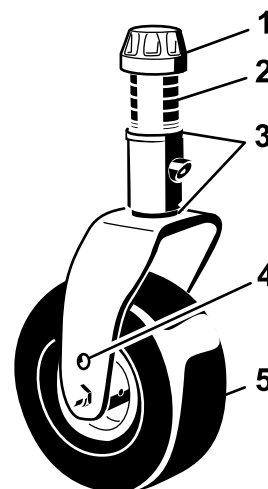
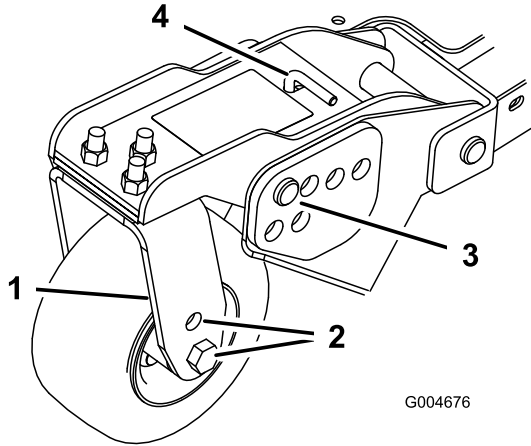
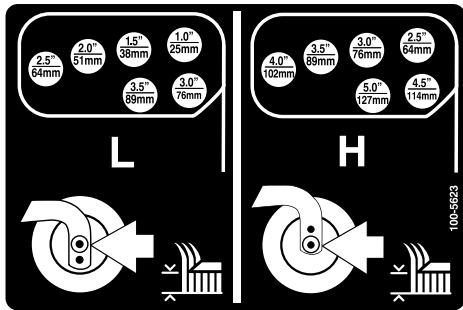

Figure 21
Figure 23
Figure 24
- Position the caster-wheel axles in the same holes in all of the caster forks (Figure 21 and Figure 23).
- Remove the tensioning cap from the spindle shaft and slide the spindle out of the caster arm (Figure 21).
- Remove the hairpin cotter and clevis pins from the caster-pivot arms (Figure 23).
- Rotate the tension rod to raise or lower the pivot arm until the holes are aligned with the selected height-of-cut bracket holes in the mower-deck frame (Figure 23 and Figure 24).